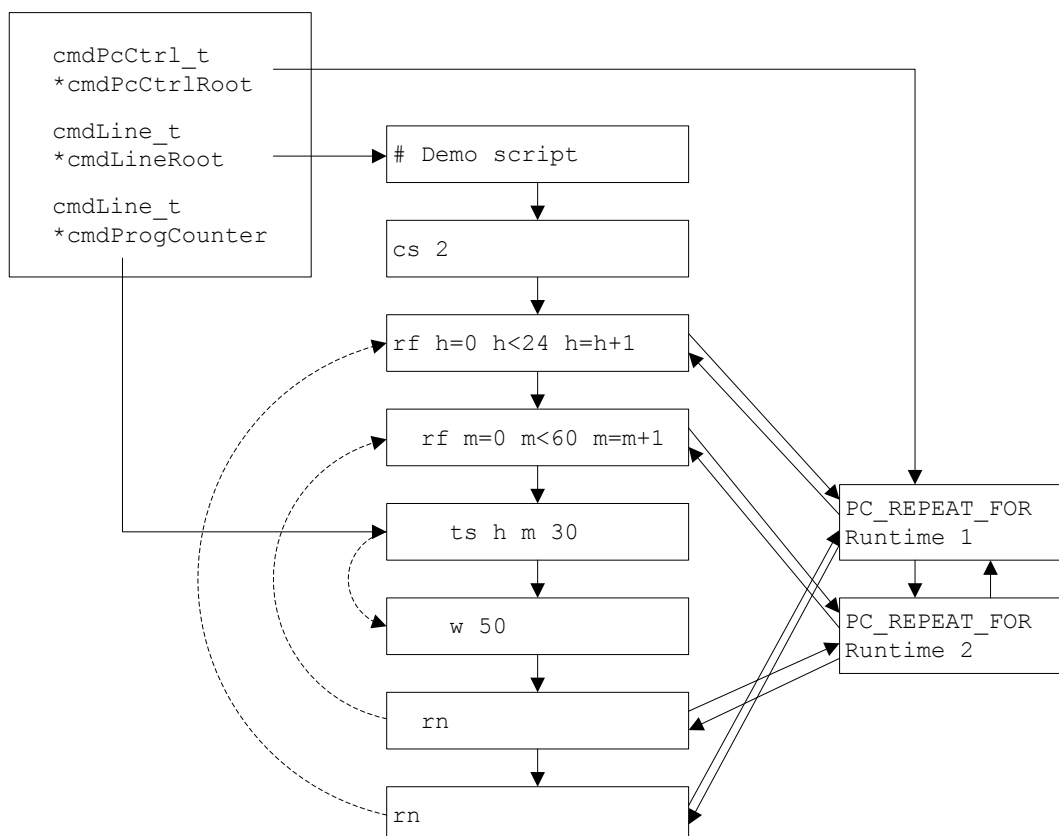

Figure 10: Creating and executing an mchron command list
- In `doExecute()` function `cmdListFileLoad()` is called to load the file contents into linked list structures as depicted in figure 10 below. Part of loading the file is matching each line with its associated command dictionary entry. Also, the integrity of the command list is checked by matching each 'rf' command with an 'rn' command. When an unknown command is encountered or repeat commands cannot be matched, file loading will abort.